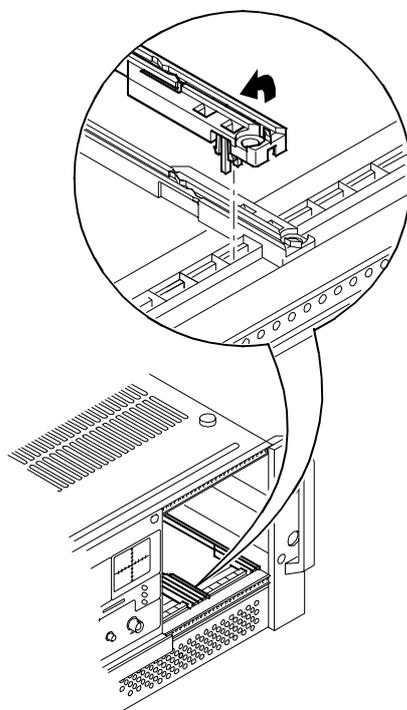

Fig. 5.2 Removing guide rails
- If fitting a double-width module where previously two single-width modules were fitted, remove the four (two upper and two lower) guide rails from the middle of the double slot – see Fig 5.2. Retain the rails for future use.
- If fitting two single-width modules where previously a double-width module was fitted, insert four (two upper and two lower) guide rails in the middle of the double slot previously occupied – see Fig 5.2.
- 5) To remove a module reverse steps (1) to (4).
To remove a guide rail, refer to Fig. 5.2 and proceed as follows: